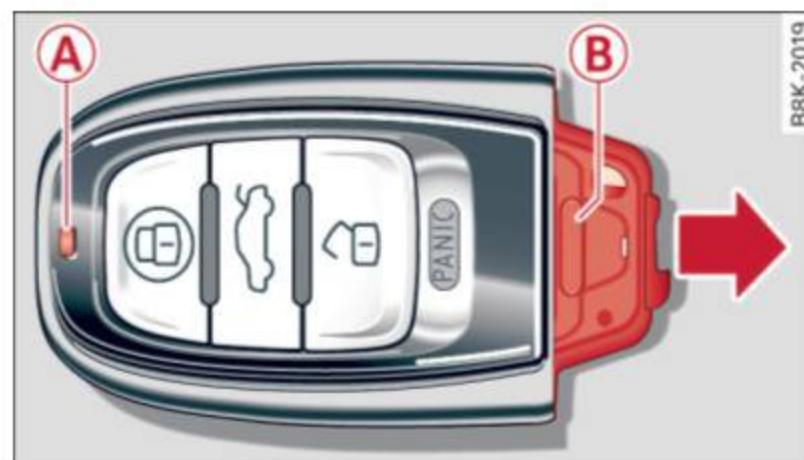

Fig. 21 Remote master key: removing the battery holder
The check light **A** ⇒ *fig. 21* in the master key provides information about different conditions.
- ▶ Press the release button **B** ⇒ *fig. 21* on the battery holder and at the same time pull the battery holder out of the master key in the direction of the arrow.